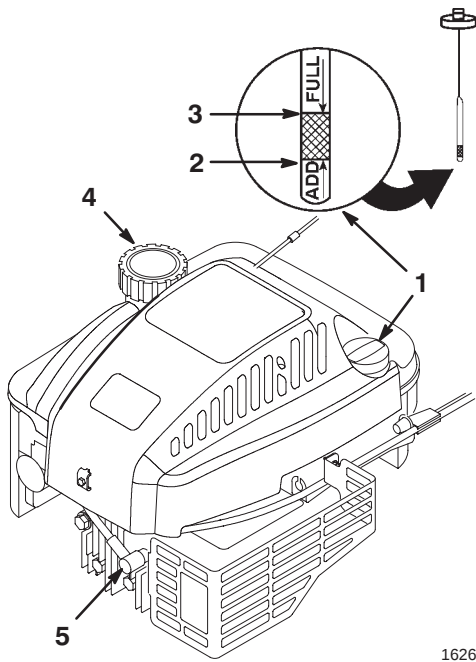

Figure 7
Before each use, ensure that the oil level is between the Add and the Full marks on the dipstick (Fig. 7).
2. Clean around the dipstick (Fig. 7).
6. Read the oil level on the dipstick (Fig. 7).
1. Clean around the fuel tank cap (Fig. 7).
1. Connect the wire to the spark plug (Fig. 7).